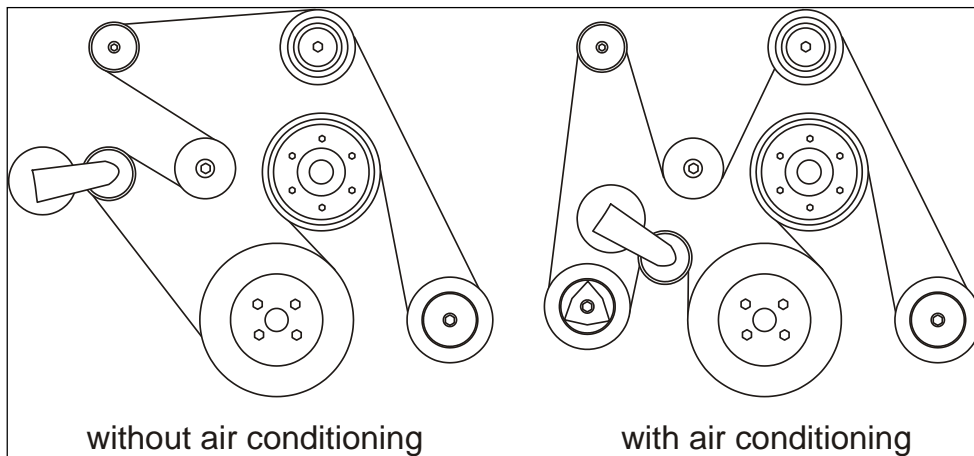

Figure 1.1 – Belt routing
- Place the OEM crank pulley on the front of the crankshaft and rotate it to align it with the locating pin. Route the belt as per (Figure 1.1) but leave the belt loose.
- Check the OEM belt routing diagram for the correct installation (Figure 1.1).